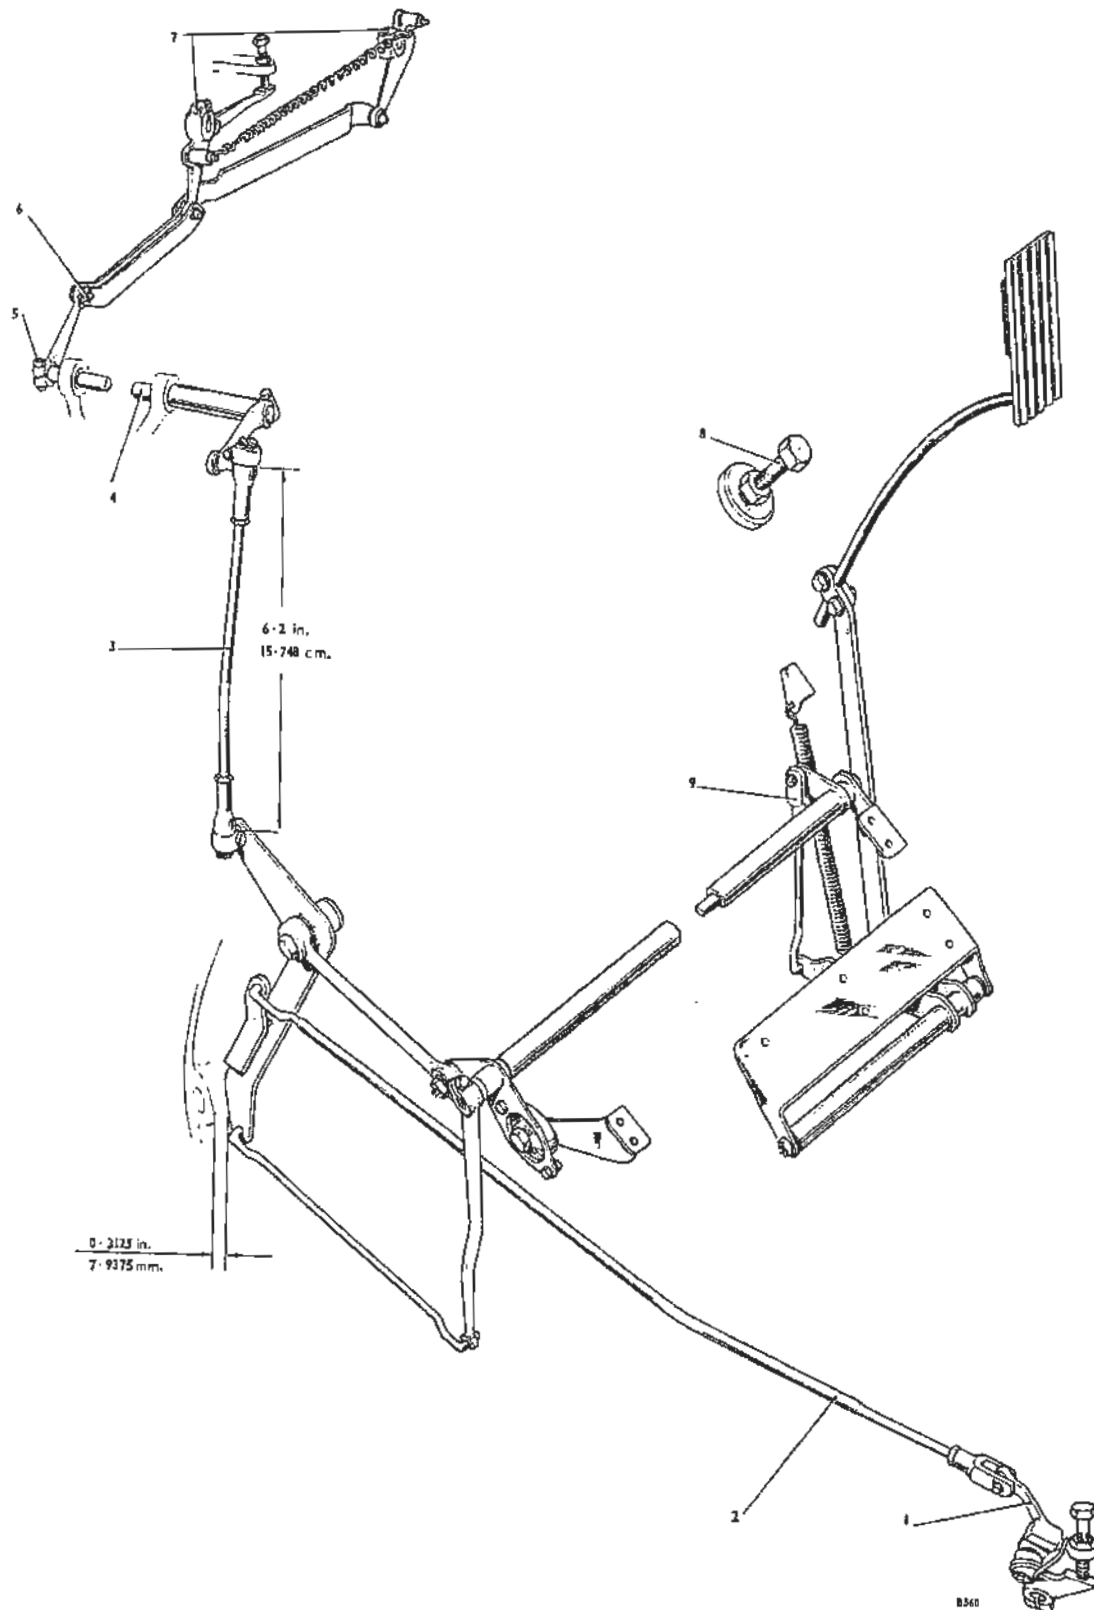

Fig. 28 Throttle and T.V. control linkage — R.H. drive cars
On right-hand drive cars, drive the car onto a ramp or over an inspection pit, then disconnect the T.V. rod at the gearbox end by removing the split pin and clevis pin (see (2) in Figure 28).
Detach rod (3) by removing the pinch bolts and ball joint adjusting screws. Check the distance between the ball joint centres as indicated in Figure 28. This should be approximately 6.200 in.
Slacken the clamp bolt (5) on the manifold shaft and insert a 0.3125 in. distance piece between the boomerang lever and the bell housing as indicated in Figure 28. If no assistance is available to hold this in position it may be secured with adhesive tape.